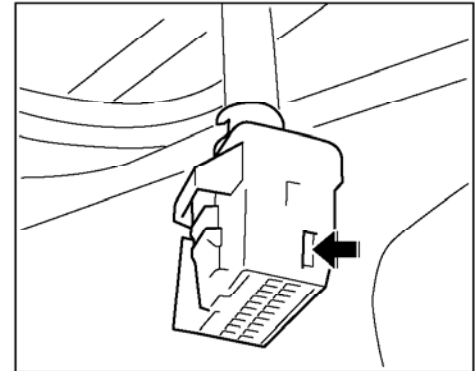

Figure 5
- 3.2 Use a small flat screwdriver to open the lock ⇒ *Figure 5 -arrow-* and separate connector housing from the plug carrier.